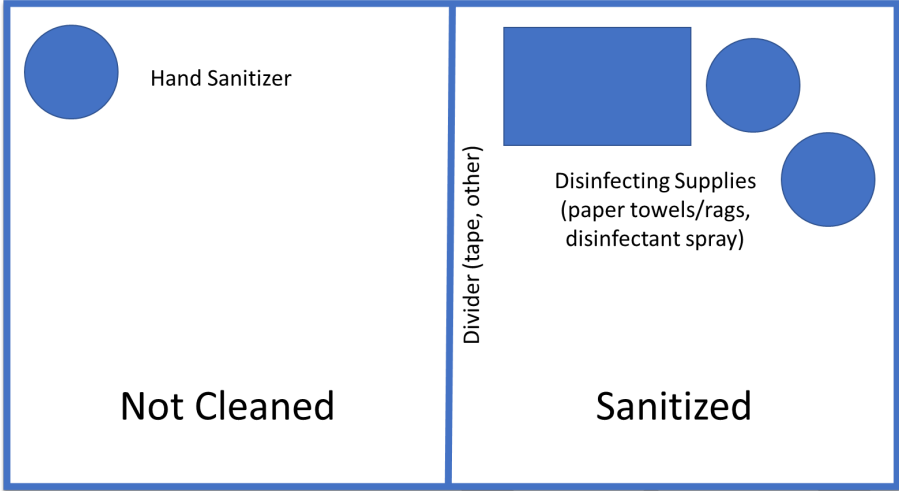

Figure 2: Schematic of the Cleaning Station. Cleaning Products are defined elsewhere in this document.
7.2.2 A schematic of the cleaning station is shown in Figure 2 and the procedure is as follows: